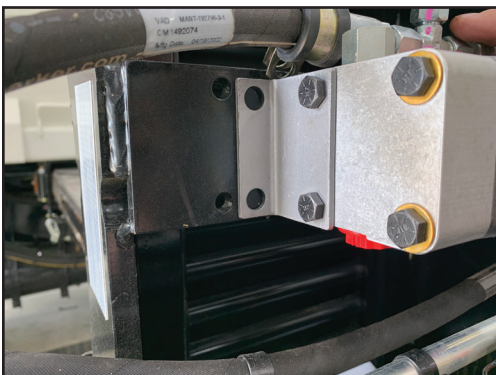

Figure 3
8. Using the flow divider as a template, mark the left side of the grabber frame mounting holes to be drilled (Figure 3).